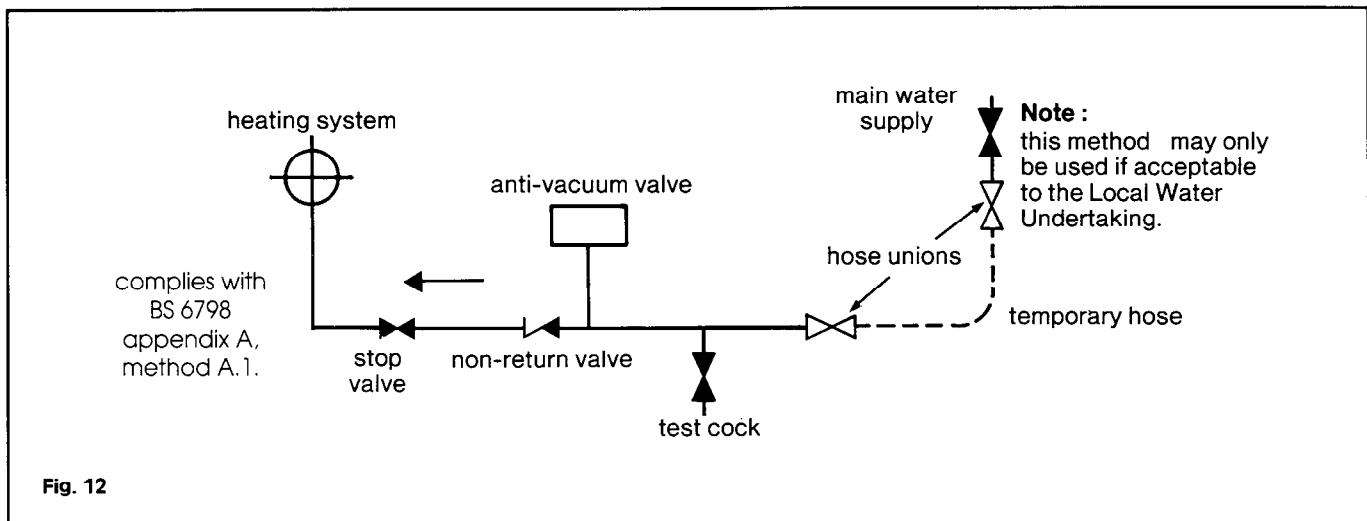

Fig. 12
- 1) Through a temporary hose connection from a draw off tap supplied from a service pipe under mains pressure provided that this is acceptable to the Local Water Authority, see fig. 12).